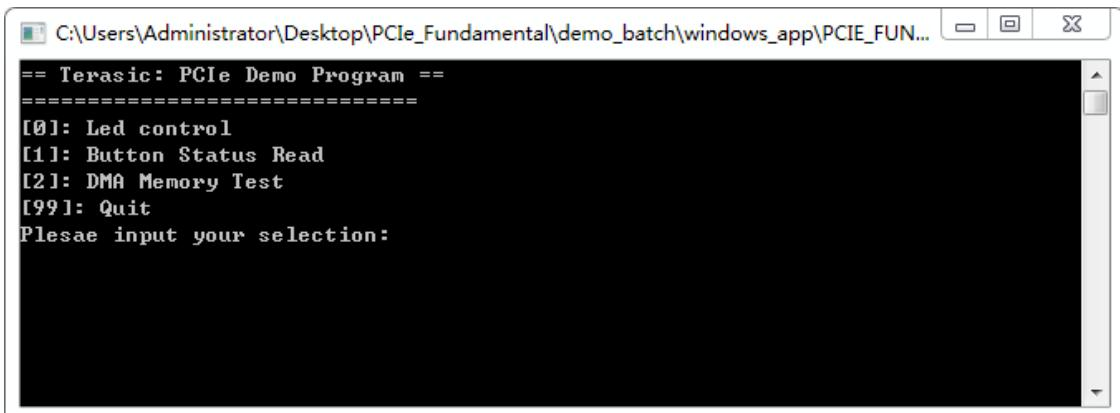

Figure 7-12 Screenshot of Program Menu
6. Goto windows_app folder, execute PCIE_FUNDMENTAL.exe. A menu will appear as shown in **Figure 7-12.**